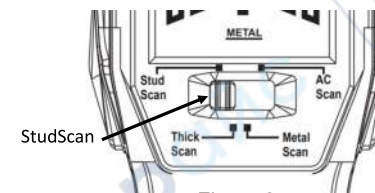
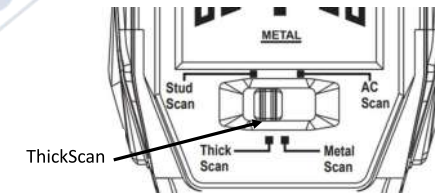

Figure 3
Figure 4
- 2) Selecting the detection mode: move switch to left for StudScan (Figure 3) and right for ThickScan (Figure 4).